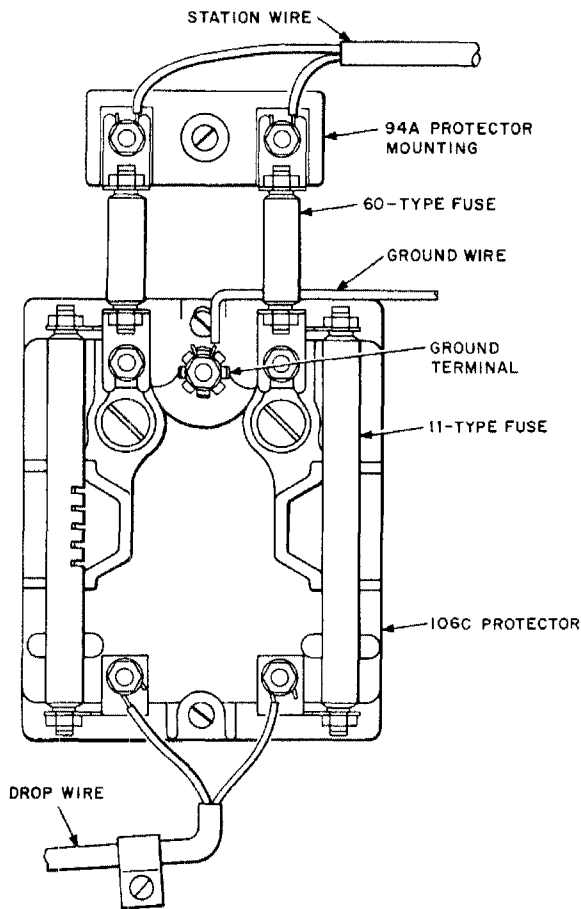

Fig. 25—94A Protector Mounting with Fused Protector
conductors on the line side of the protectors. Use two 11CBB Fuses, one for the tip and one for the ring conductors (Fig. 25 and 26). On disconnects, replace the 2A1D Protector Units with 2A1A Protector Units.
7.11 Fig. 25 illustrates a typical installation of 60-type fuses with a fused protector.